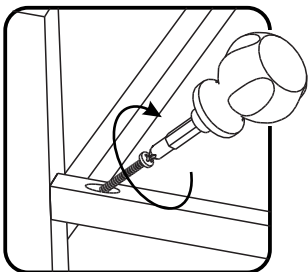

Figure 2
Attach Stretcher (G) to unit with Wood Screws. (See Figure 2)